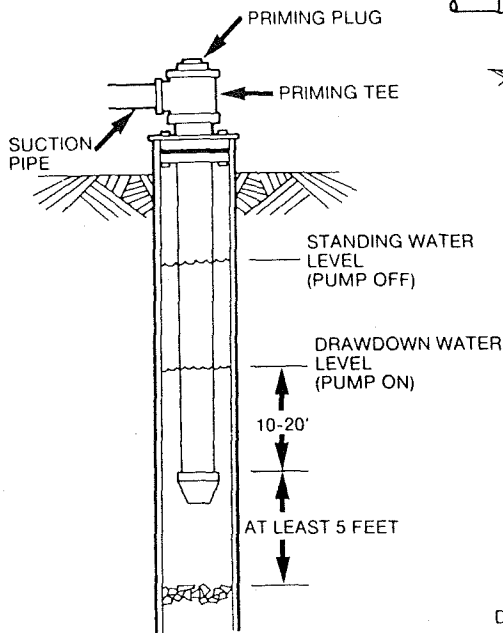
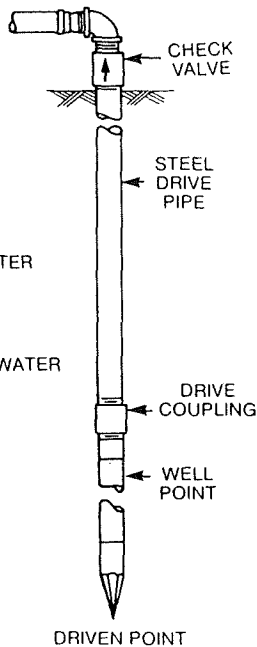

Figure 6—Cased/Dug Well Installation
Figure 7—Driven Point Installation
5. When using a foot valve, a priming tee and plug as shown in Figure 6 are recommended.
1. Connect the suction pipe to the drive point as illustrated in Figure 7. Keep horizontal pipe run as short as possible. Use Teflon tape on male pipe threads. Multiple well points may be necessary to provide sufficient water to pump.
2. To aid priming on well point installations, install a line check valve as shown in Figure 7. Be sure check valve flow arrow points toward pump.
**NOTICE:** For long horizontal pipe runs, install a priming tee between check valve and well head as shown in Figure 6. For driven point installations, install a check valve as shown in Figure 7. Be sure check valve flow arrow points **toward** pump.